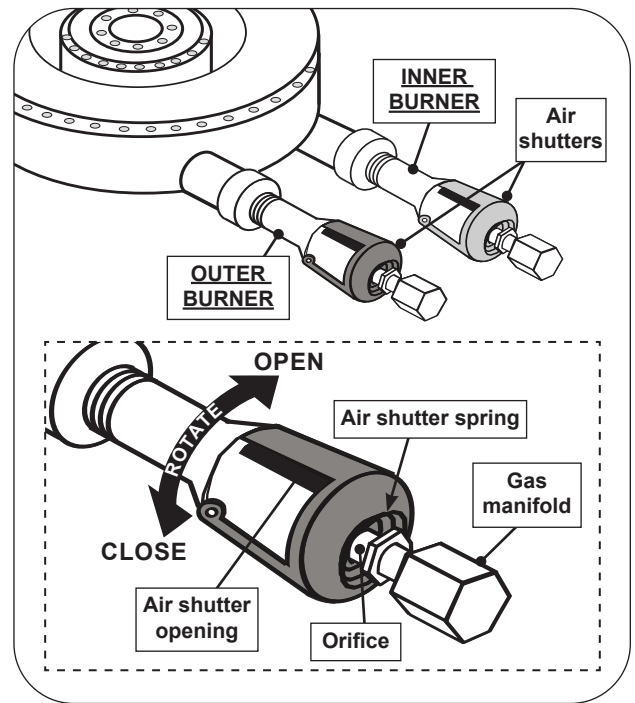

Fig. 57-1 Power burner air shutter adjustment detail
1. To adjust the air shutters, rotate the shutters to open or close them. See Fig. 57-1 for details.